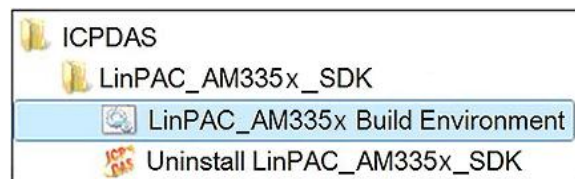

Fig. 3-22
- Double-click the shortcut icon for the "LinPAC\_AM335x Build Environment" (Refer to Fig. 3-22).